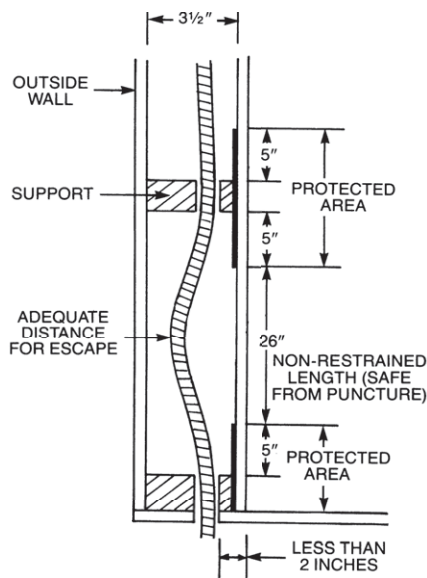

Figure: 4-7 Long Unsupported Tubing Runs (over 3') within a Wall Partition.
- At support points and points of penetration less than 2 inches away from any edge of a stud, joist, plate, etc. shielding is required at the area of support and within 5 inches of each side (if appropriate). Use a half striker or a full striker plate in these locations. (Figure: 4-7).